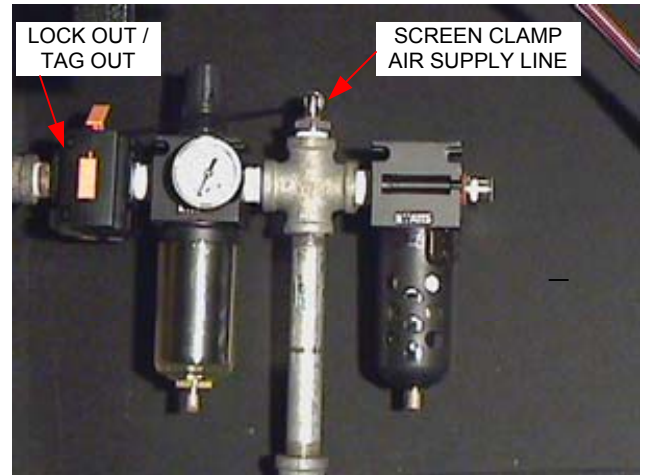

FIG. 1
1. CLOSE THE LOCK OUT / TAG OUT VALVE. LOCATE THE SCREEN CLAMP AIR SUPPLY LINE. ON MOST PRESSES IT IS THE ¼" AIR LINE THAT IS CONNECTED TO THE TOP OF THE CROSS CONNECTION TO THE RIGHT OF THE REGULATOR. (FIG. 1)
16. OPEN THE LOCK OUT / TAG OUT VALVE. (REFER TO FIG. 1)